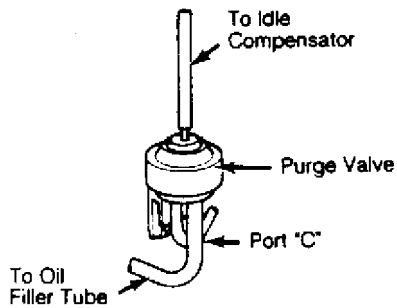

Fig. 2: RX7 Rotary Engine Purge Valve
1) Disconnect purge valve-to-oil filler tube hose from purge valve. Start engine and operate at idle speed. Place finger over port "C" and check that air is not being drawn into port. See Fig. 2.